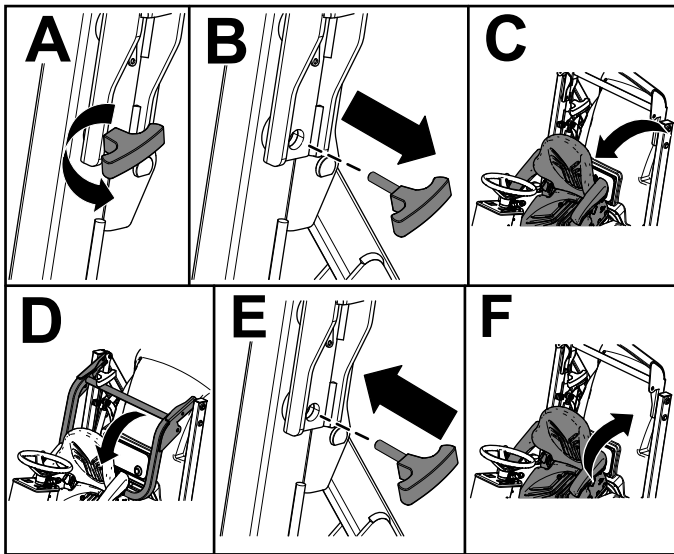

Figure 15
4. Tilt the seat forward (Figure 15).
5. Remove the knob pins from the roll bar (Figure 15).
6. Lower the roll bar and secure it in place with the knob pins (Figure 15).
- Tilt the seat rear to the locked position (Figure 15).